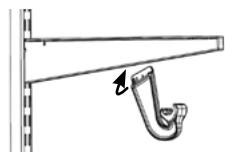

Figure 6
**STEP 8:** Install closet hooks by inserting into the bottom of the shelf brackets and snapping into place (**Figure 6**).